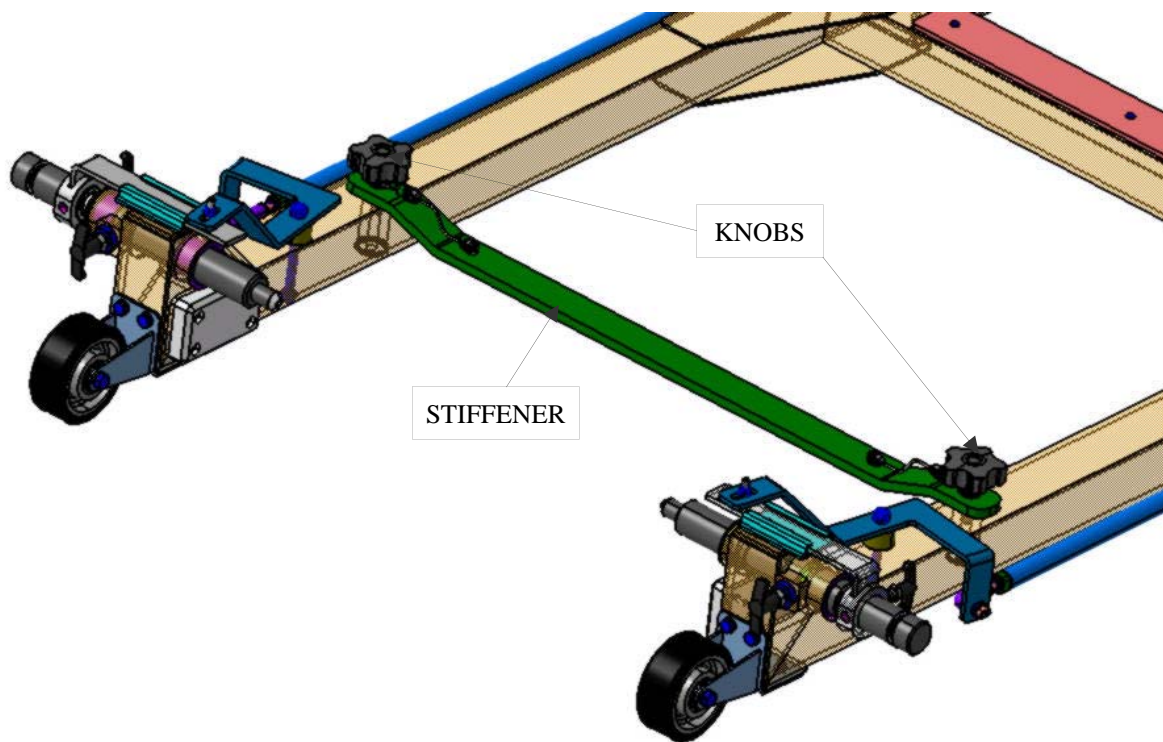

Figure 16: Tow Bar Assy: Stiffener
3. Remove the stiffener by unscrewing the supplied knobs. See Figure 16.